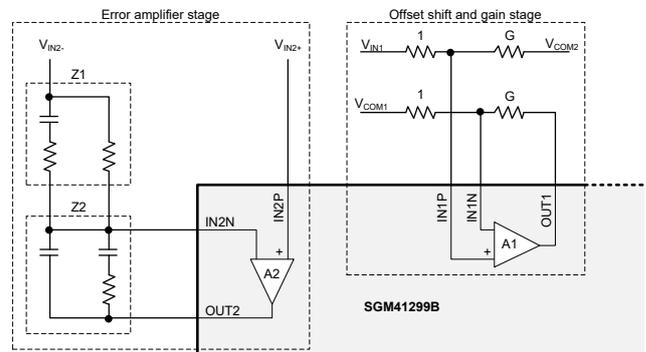

Figure 11. Using SGM41299B Amplifiers
Figure 11 shows an applicable circuit in which A2 is used to make an error amplifier with external compensation network Z1 and Z2, and A1 is used to make a gain (G) stage with level shifting from  $V_{COM1}$  at input side to  $V_{COM2}$  at output (OUT1). The temperature setting can be fed into either  $V_{IN2+}$  or  $V_{IN2-}$  and the temperature sensor (for example NTC) can replace one of the four resistors.